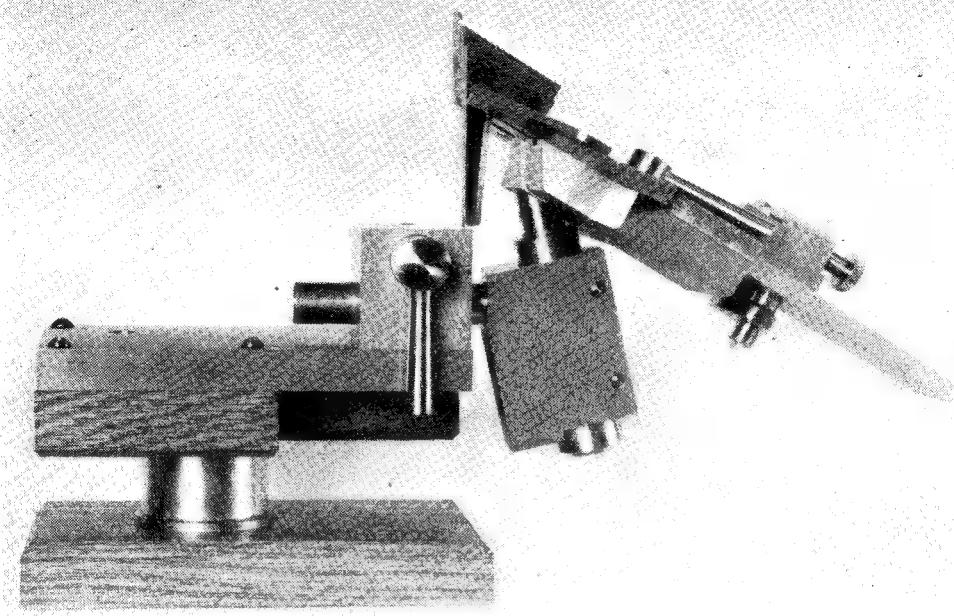

Fig. 13. The base bracket mounted above the baseplate to gain height
The finished machine illustrated is mounted on a two-part wooden base for demonstration purposes, and for normal use the steel baseplate is attached either directly to the bench, or by means of a single wooden base, so as to allow the drill slide to overhang the edge of the bench. As will be seen, a special grinding head, which will be described later, is secured to the common baseplate, but if instead the ordinary type of bench grinding head is used, the base-bracket carrying the jig is then mounted on top of the base, as illustrated in Fig. 13.
be inserted as shown in Fig. 12 and a fourth is put in mid-way between the two holes for the grinding head attachment screws, or in the position illustrated in Fig. 13.
drilled and bored, it is advisable to finish the interior by lapping, so that the spindle will slide freely when the drill is being moved up to the grinding wheel. As will be seen, the clamping bolt is formed with a long head fitting into a recess machined in the bracket; in addition, a set-screw is fitted to secure the clamp-bolt after it has been rotated to bring the lever of the clamp-nut into a convenient position for handling. The recess formed at the end of the spindle bore is for locating the spindle guide (F), but if the base-bracket is mounted above the baseplate, as illustrated in Fig. 13, this recess must then be machined at the opposite end of the bore and not represented in the drawing.